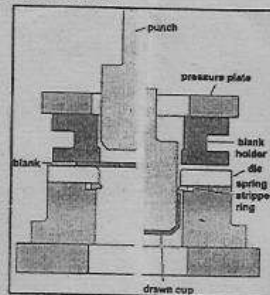

Fig16(a)
16. (a) (i) A javelin is launched by a six feet tall athlete. What mode of vibration would occur first? Discuss why this mode occurs first. If the first natural frequency is to be determined what are the matrices involved and the corresponding boundary conditions? (7)
(ii) A deep drawing process as shown in fig.16(a) for producing cylindrical cups is to be simulated. Explain the modeling procedure for finite element simulation of the above process and discuss the various issues involved. (8)